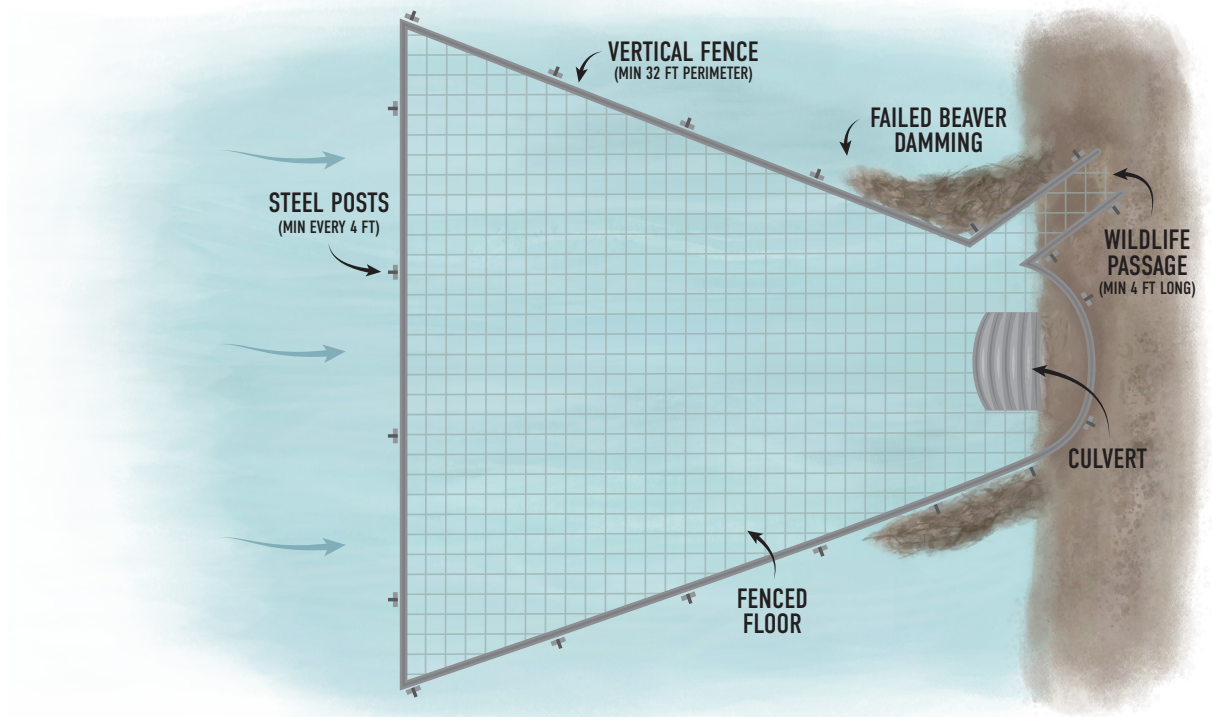

Figure 8. Trapezoidal culvert fence.
A **trapezoidal culvert fence** (Figure 8) protects the culvert by physically excluding beavers from the area around the culvert inlet using wire fencing. The shape of the fence also alters the physical and auditory cues that promote dam building. Beavers will often start to construct a dam along the two sides of the fence enclosure nearest to the culvert, but generally abandon the dam building as the angle of the fencing pushes them out into still water where they no longer detect the sensations of flowing water. As a result, a majority of the fence remains unobstructed.
- Facilitate wildlife passage: Leave an opening in the exclusionary fence that runs up onto dry land to provide an exit for other wildlife that may use the culvert to move up and down the stream (Figure 8).
8. Construct one opening with side walls in the trapezoid's perimeter that extends a minimum of 4' long across dry ground onto the road bank. Extend a floor in this terrestrial wildlife passage from the floor of the flow device to the end of the passageway (Figure 8) and infill with small rocks and other on-site materials to provide solid footing. Build this passage minimum of 16" wide and minimize exposed sharp wire ends for both wildlife and human safety.